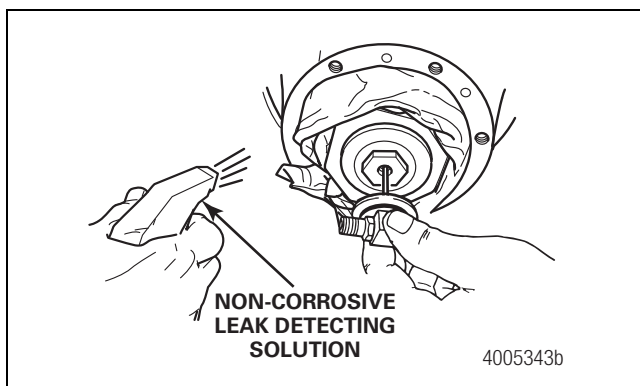

Figure 3.25
- G. Ensure to hold the tee straight into the axle. Spray the axle press plug area with a non-corrosive leak detecting solution to check for leaks. Figure 3.25.